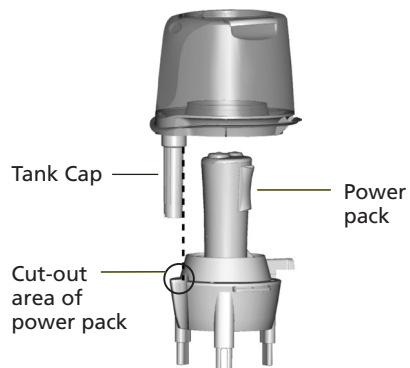

Figure 6
9. Carrying the Water Tank by the two upper handles on the top of the Tank, position the Water Tank so that the notch in the back fits over the power supply cord and the Tank Cap in front fits into the cut-out area of the Power Pack. See Figure 6.